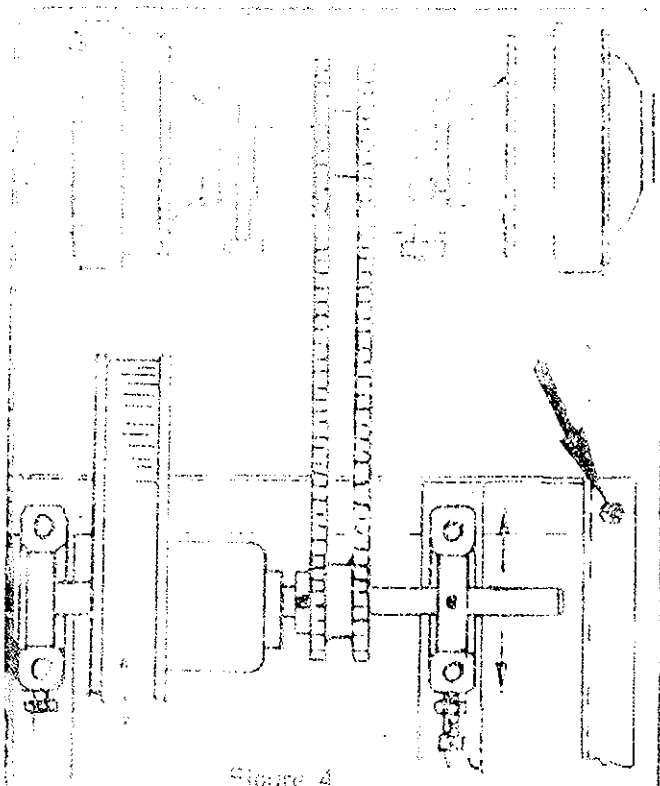

Figure 4
A. Main Drive Chain Adjustment - 6-wheel (See Figure 4)